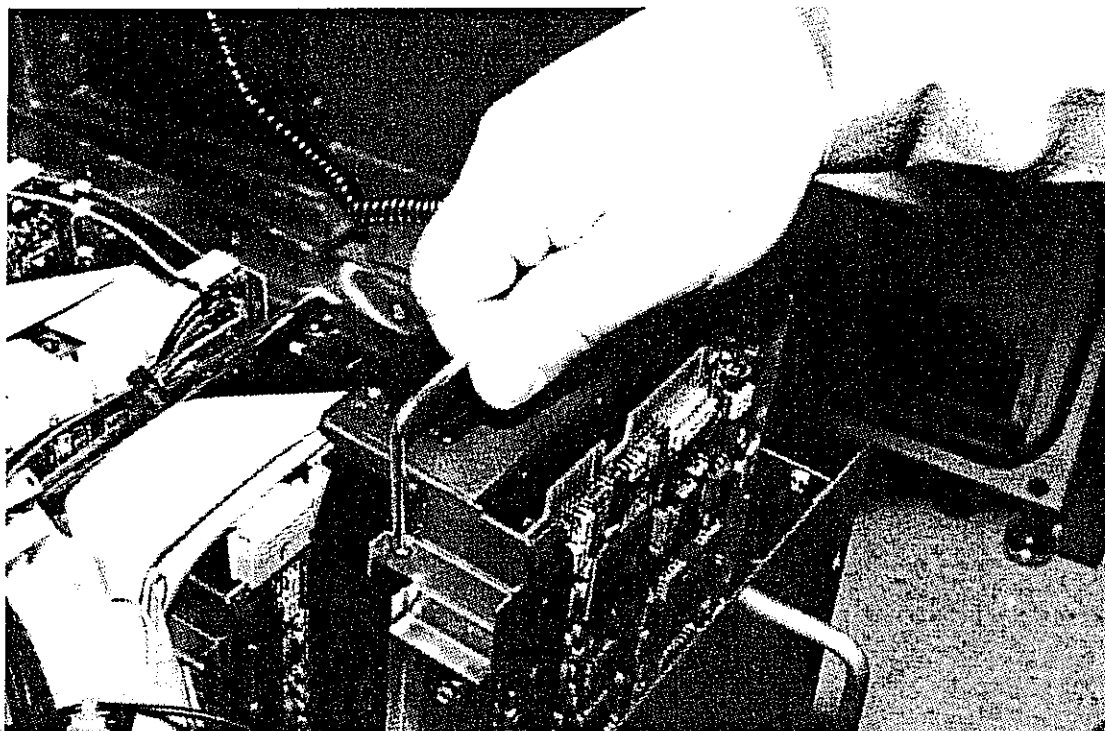

Figure 7-49. DD-3 Drive Handle
9. Using the drive handle, pull the drive up and out of the tray. Refer to Figure 7-49. Avoid carrying the drive by the handle because it may fall. Support the drive with two hands when possible.